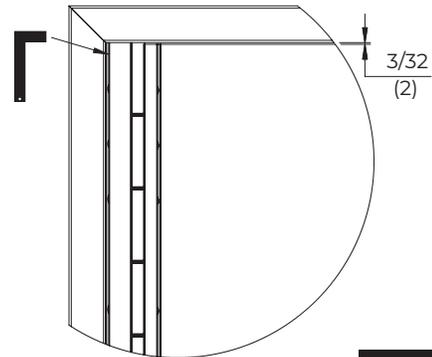

Figure 3
3. Mount door to leave 3/32" (2) gap between top of door and frame header. (Figure 3)